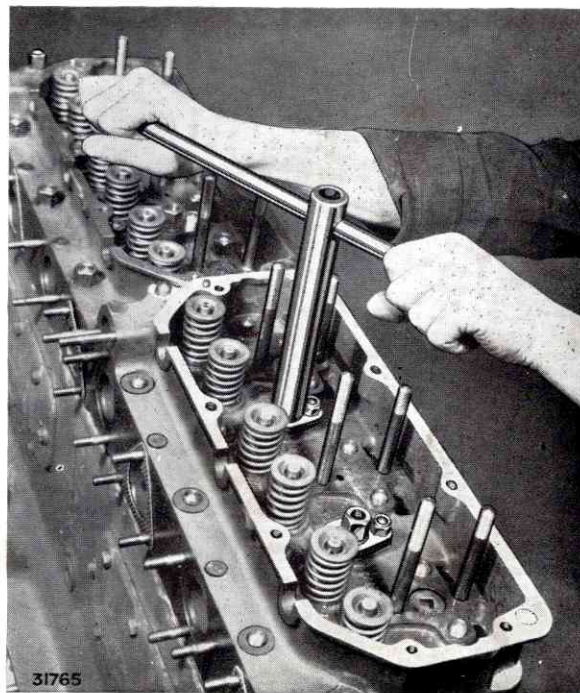

FIG. 16. TIGHTENING LIFTING NUTS
6. Remove all cylinder head nuts and raise the heads by unscrewing the special lifting nuts (see Fig. 16). The two lifting nuts are provided for each of the heads to prevent damage to the gaskets when lifting. Both nuts should be screwed evenly as far as they will go, then lift the head off the studs. If the heads are tight on the studs, a further lift can be obtained by screwing long  $\frac{1}{2}$  in. B.S.F. bolts into the lifting nuts.